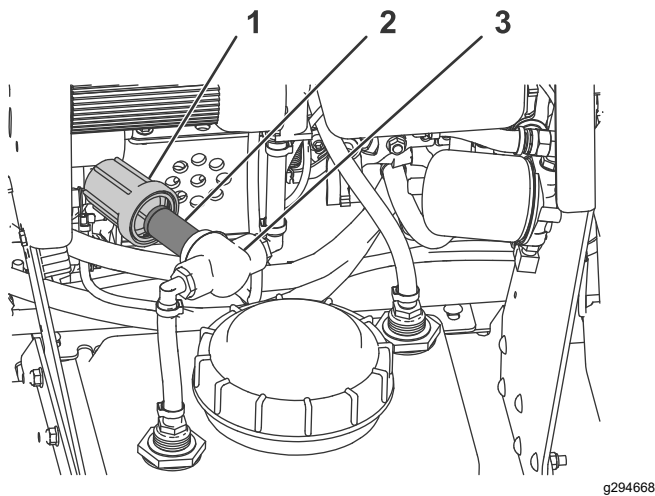

Figure 51
1. Clean the area around the in-line filter cap (Figure 51).